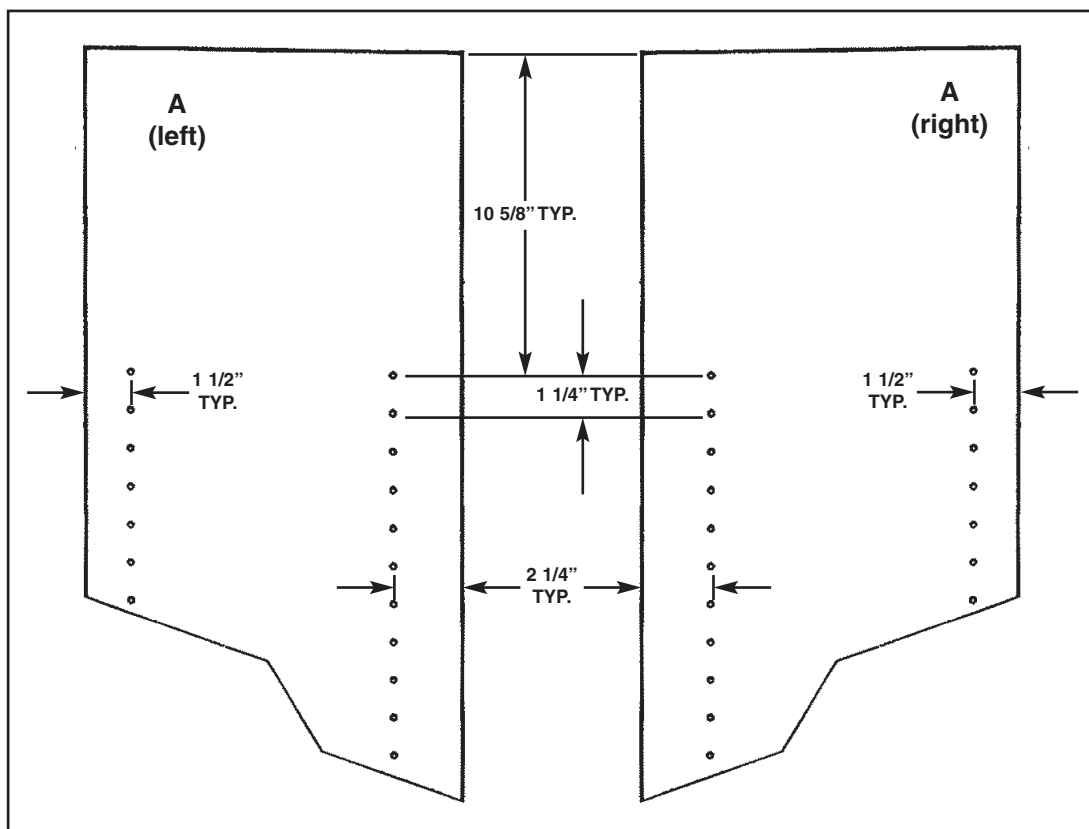

Figure 1
1. Lay out and drill hole pattern for shelf supports. Refer to Figure 1.